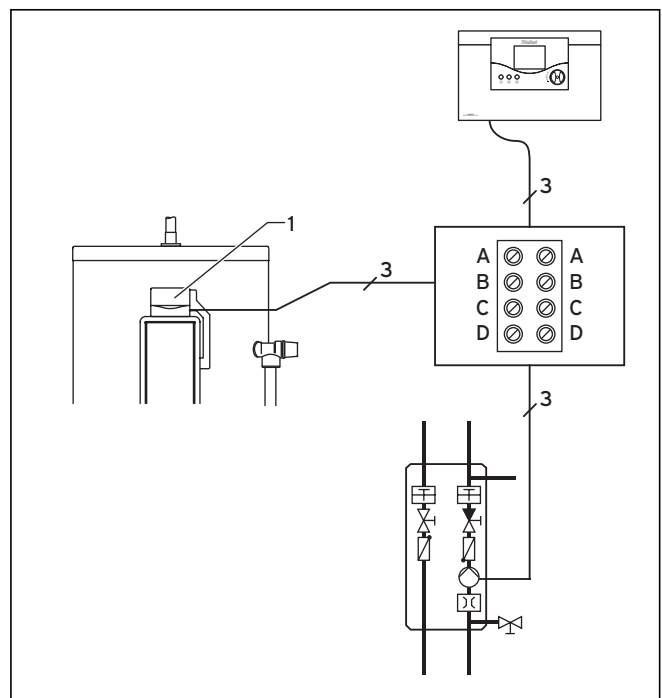

Fig. 5.27 Connection diagram of the solar pump TCO
- Connection of the solar pump to the solar control via its own thermal cut out (see Fig. 5.27)